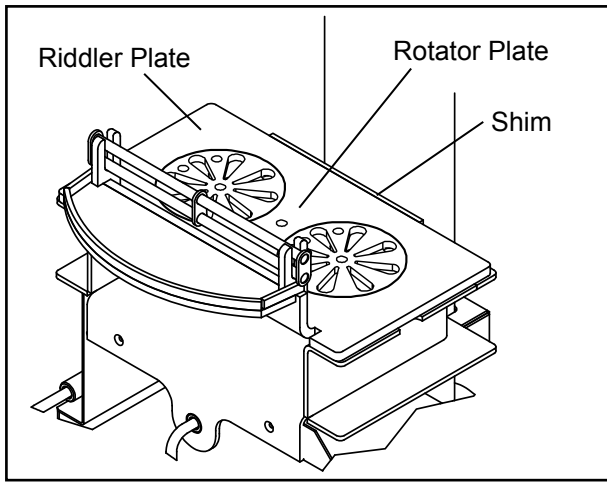

Fig. 7
1. Remove the Shim, found at the rear of the Riddler Plate (see Fig. 7).